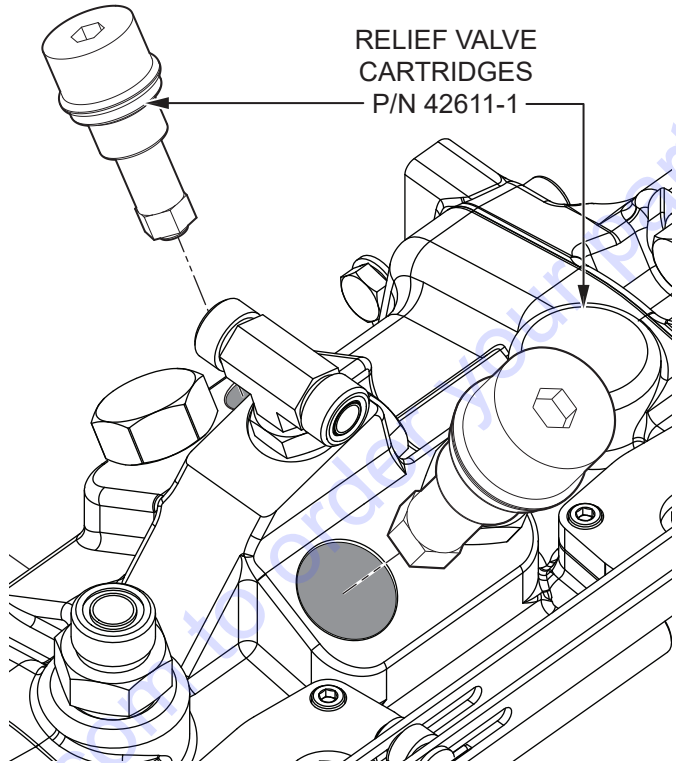

Figure 7. Relief Valve Cartridge Installation
- Insert the two new relief valve cartridges (P/N 42611-1) into the pump and torque them each to 60 ft-lb (81.35 N·m). See Figure 7.